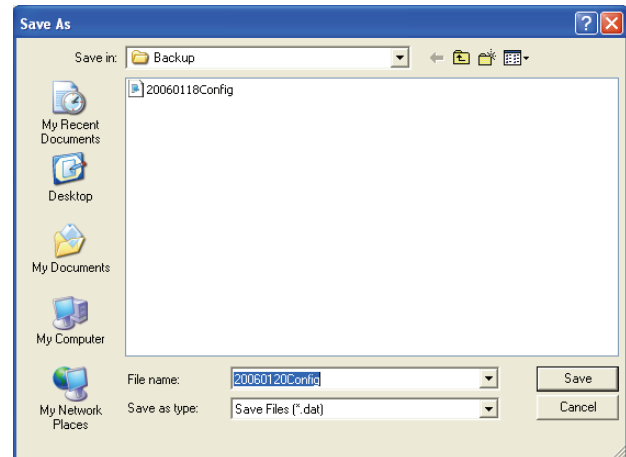

figure 8.23: "Save configuration file as" window
- 1 From the main menu, click the Save configuration file button. The following window will appear (see figure 8.23).
The default filename is based on the date set in the computer's clock (see figure 8.23).